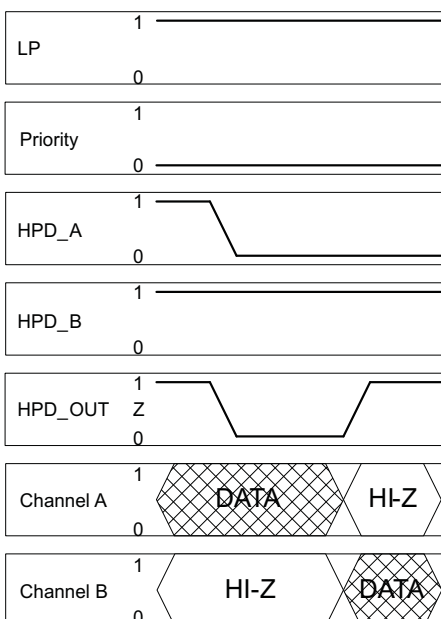

**Figure 21.**
- Case one: In this case only one HPD input is initially HIGH. The HPD output logic state follows the state of the HPD input. If the HPD input pulses LOW, as may be the case if the Sink device is requesting an interrupt, the HPD output to the source also pulses LOW for the same duration of time with a slight delay (see Figure 20). The delay of this signal through the SN75DP128A is specified as  $t_{PD(HPD)}$ . If the duration of the LOW pulse is less than  $t_{M(HPD)}$ , it may not be accurately repeated to the source. If the duration of the LOW pulse exceeds  $t_{T2(HPD)}$ , the device assumes that an unplug event has occurred and enters the low power state (see Figure 21). Once the HPD input goes high again, the device returns to the active state as indicated in scenario 1. The state of the Priority pin has no effect in this scenario as only one HPD input port is active.